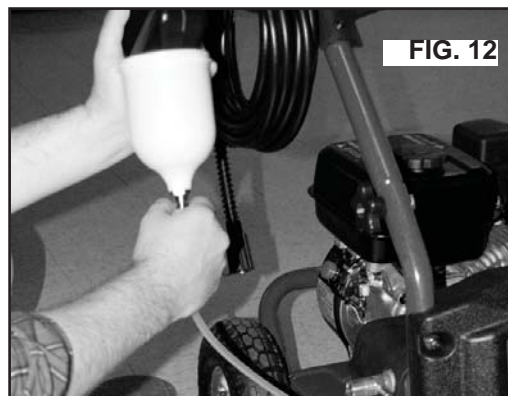

FIG. 12
4. **Add RV antifreeze** or windshield washer fluid to hose as shown. (Fig. 12)